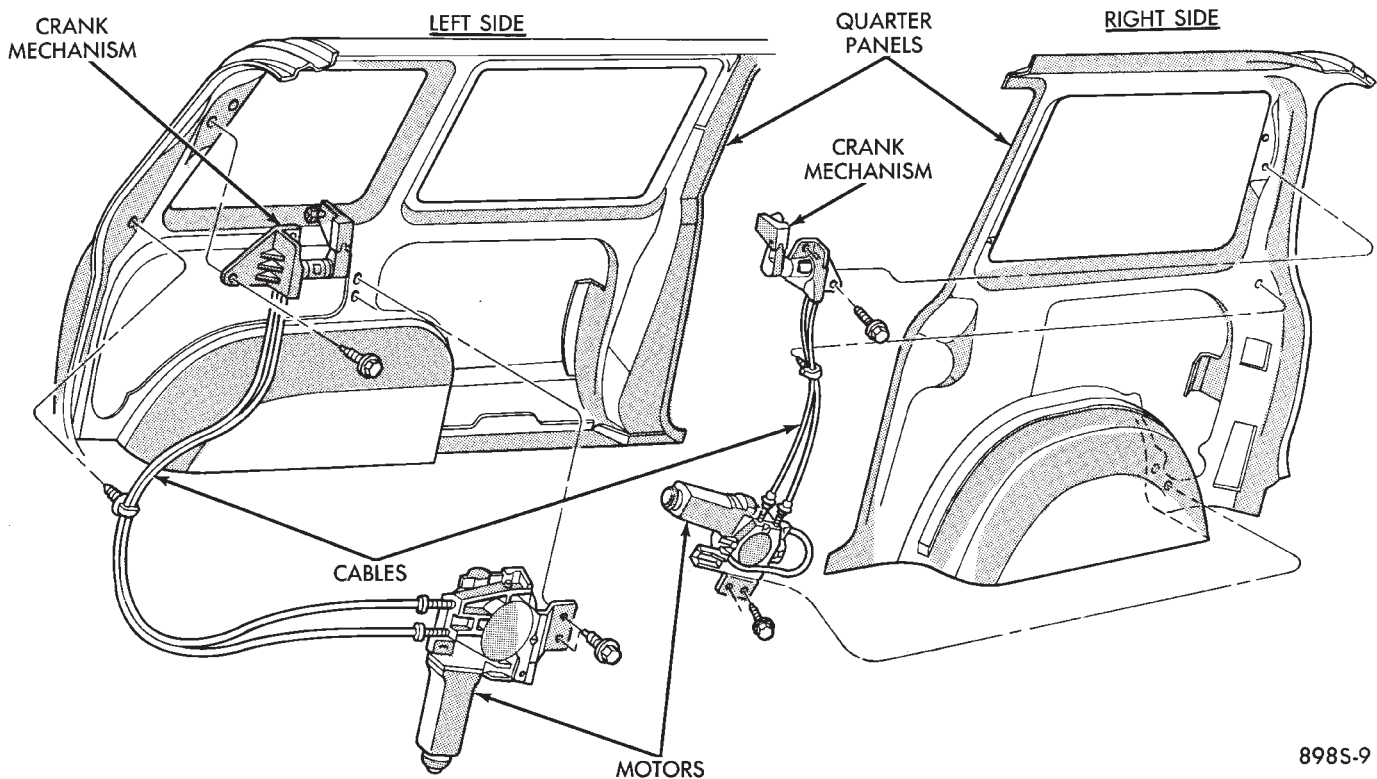

Fig. 10 Motor and Cable Assemblies
- (1) Remove windshield side garnish molding.
- (2) Remove rear seat(s).
- (3) Remove front door and liftgate scuff plates.
- (4) If servicing right side cable, remove side door scuff plate and upper track cover.
- (5) Remove B-pillar garnish molding and seat belt.
- (6) Remove upper and lower trim panels for the left side or one piece trim panel for the right side.
- (7) Remove two bolts attaching crank mechanism to quarter panel (Fig. 10).
- (8) Remove three screws attaching cable to motor.
- (9) Disengage pivot from quarter glass.
- (10) Remove cable retaining clip and remove cable assembly.